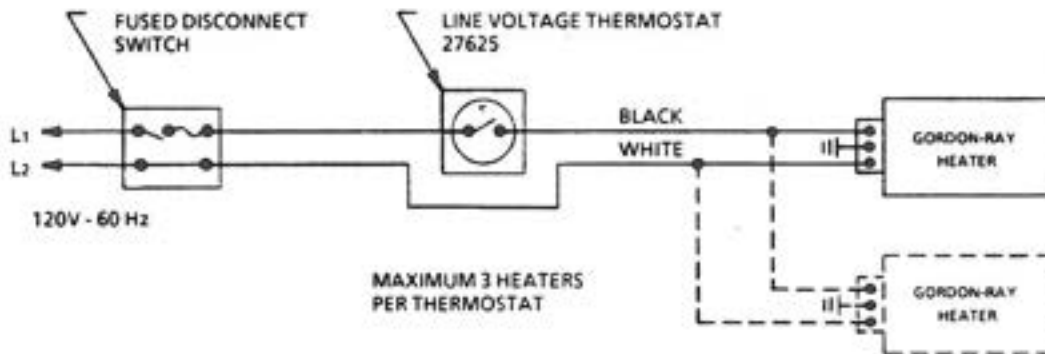

FIGURE 5. WIRING OF LINE VOLTAGE THERMOSTAT
Heaters are normally controlled by thermostats (see Figure 5). Line voltage thermostats are wired directly; the recommended 24 volt thermostats use a relay per Figure 6.
3. FOR LOW VOLTAGE THERMOSTAT AND/OR PARALLEL BURNER OPERATION SEE WIRING DIAGRAM, FIGURES 5 OR 6, PAGE 12.